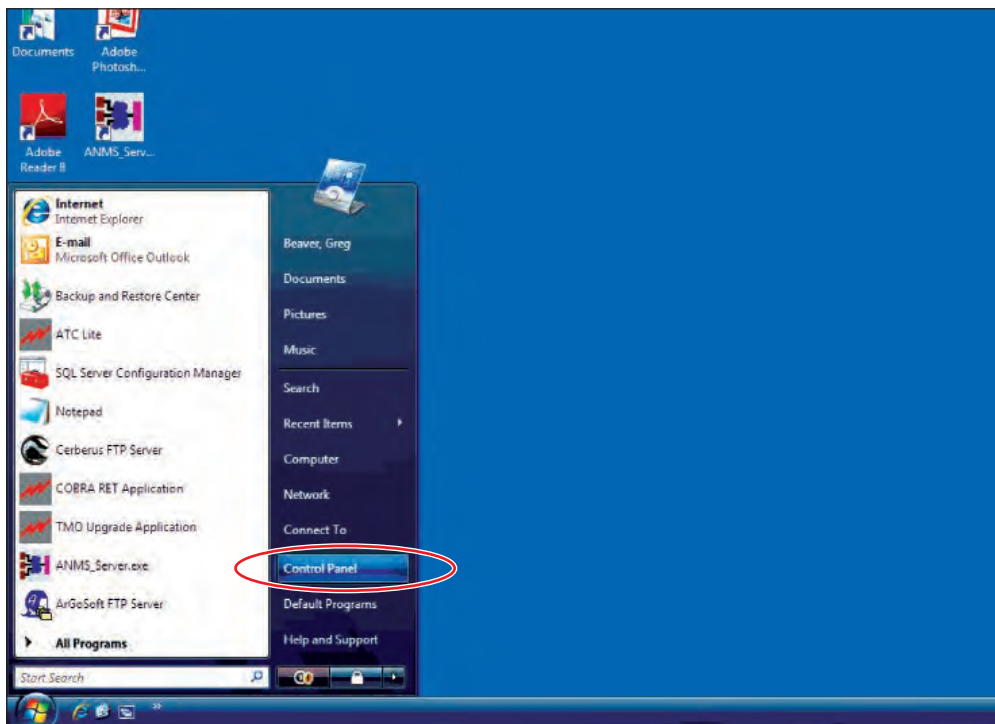

Figure B-3. Selecting Control Panel.
1. From your desktop you are going to select **Start** → **Control Panel** (Figure B-3).